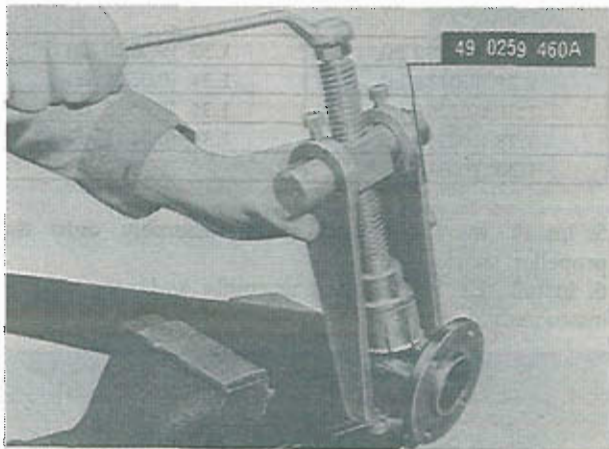

Fig. 8-5 Removing of bearing cup
4. Position the **universal joint replacer** (Part No. 49 0259 460A) as shown in Fig. 8-5 and screw in the center bolt until the bearing cup protrudes approximately 8 mm (0.32 in) out of the yoke.